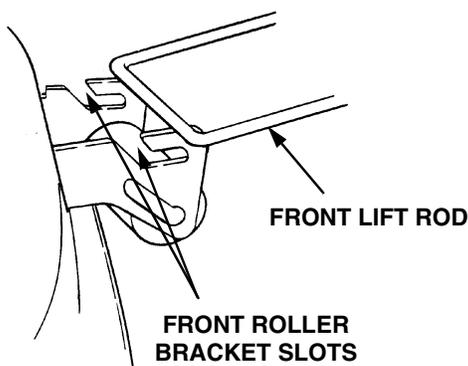

Figure 53
12. Raise the tractor implement lift handle to its highest setting. Roll the mower deck forward until the front lift rod slides up and out of the openings of both front roller bracket slots. Manually lift the rod out of the slots if necessary (See Figure 53).
13. Raise the front lift rod upward and slide the mower deck rearward. Lower the front lift rod so it rests on the front roller bracket of the deck, forward of the slots (Refer to Figure 53).